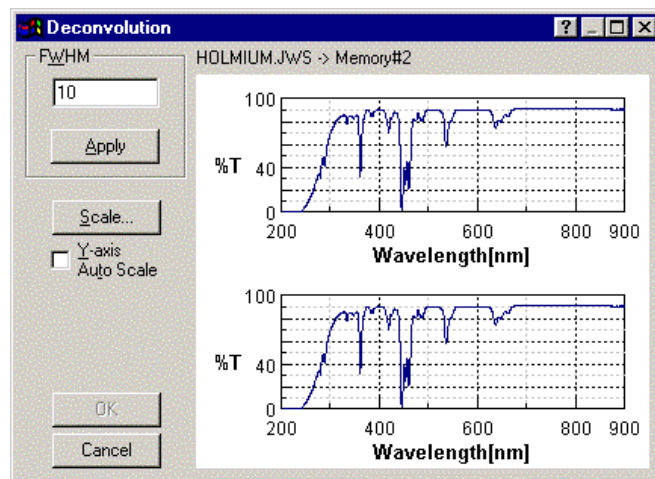

Fig. 2.24 [Deconvolution] dialog Box
*Note: Figure 2.24 shows spectra before execution of deconvolution, therefore, the upper and lower spectra in the spectrum display area are the same. After execution, the resulting spectrum is displayed in the lower half of the spectrum display area.*